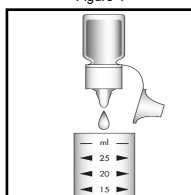

Figure 2
2. Add 7 drops of S-9200 Acidifier Solution (fig. 2). Stir to mix the contents of the cup.